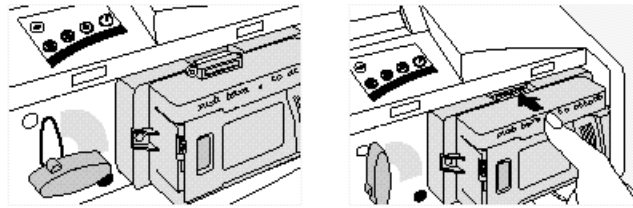

Figure 2-13. Removing and replacing the camera back
2. Move the locking lever to the unlocked (○) position (Figure 2-13, left).
3. Carefully pull the camera back straight off (Figure 2-13, right). Replace the lens cap, which is stored in the front cover, while the camera is not in use.